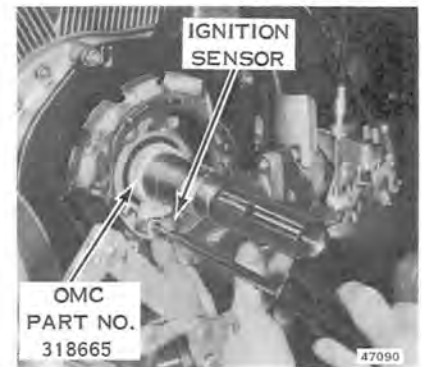

Figure 7-26
2. Position the sensor using the sensor gauge assembly and snug the sensor screws to 10-12 in. lbs. See Figure 7-26. Use Loctite Retaining Compound TL242.